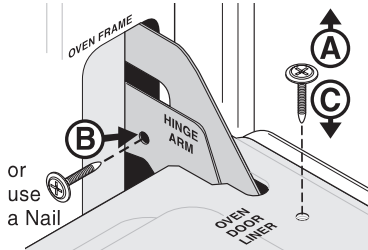

Fig. 2
2. Remove 2 screws located on the inside of the oven door liner (See **A** Fig. 2)
3. Insert the 2 screws into the door hinge holes located on the side of the hinge arm, one into each hinge (See **B** Fig. 2).
5. Reinstall the 2 screws into the door liner (See **C** Fig. 2).